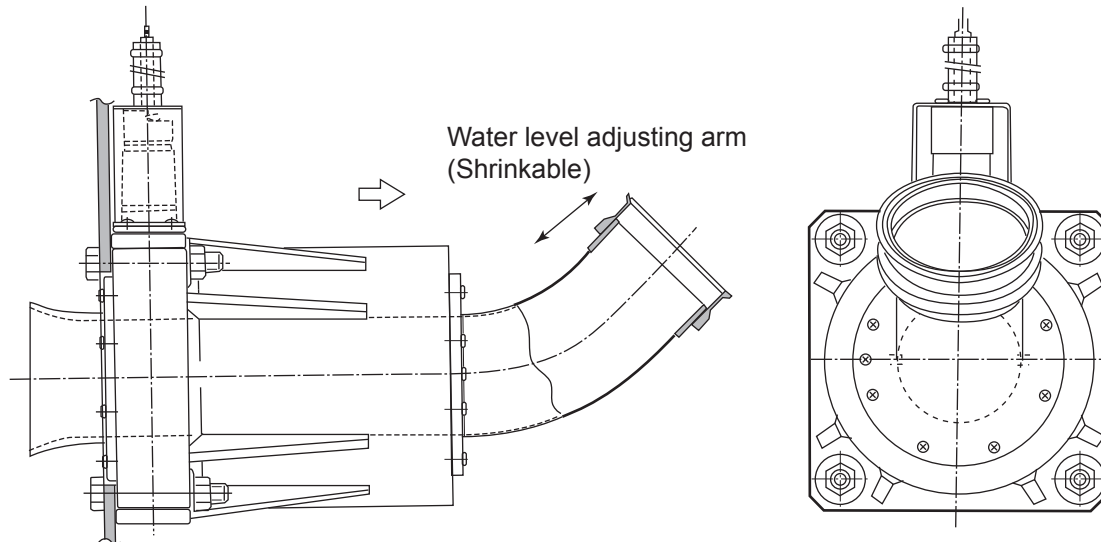
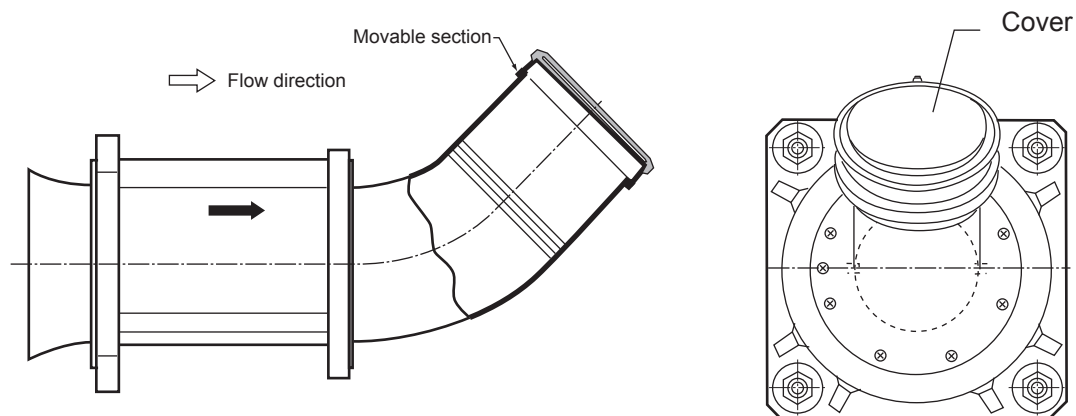

Figure 7 Detector with Elbow flange
Figure 8 Dummy with Elbow flange
- (b) If to be used for a flow running reverse to the flow direction marked on the detector (See the arrows in Figure 7 and Figure 8 .), reverse the white and black signal lines (White - B, Black - A)